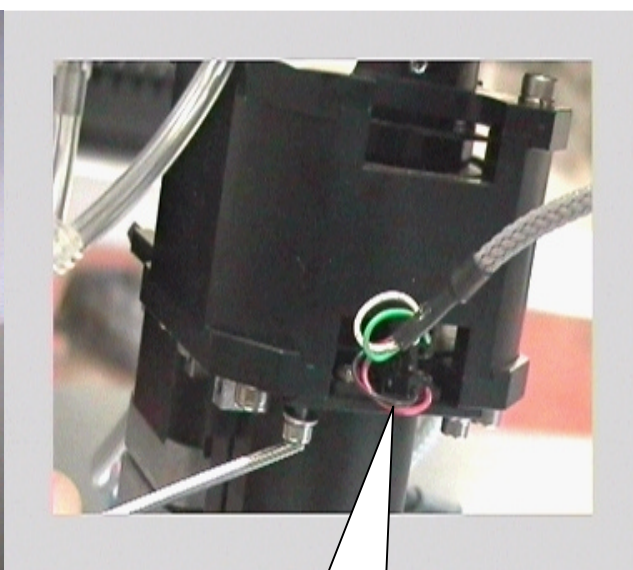

Fig. 6
- a) Remove the screws which fasten the opto sensor support and take out the entire assembly (Fig.6).